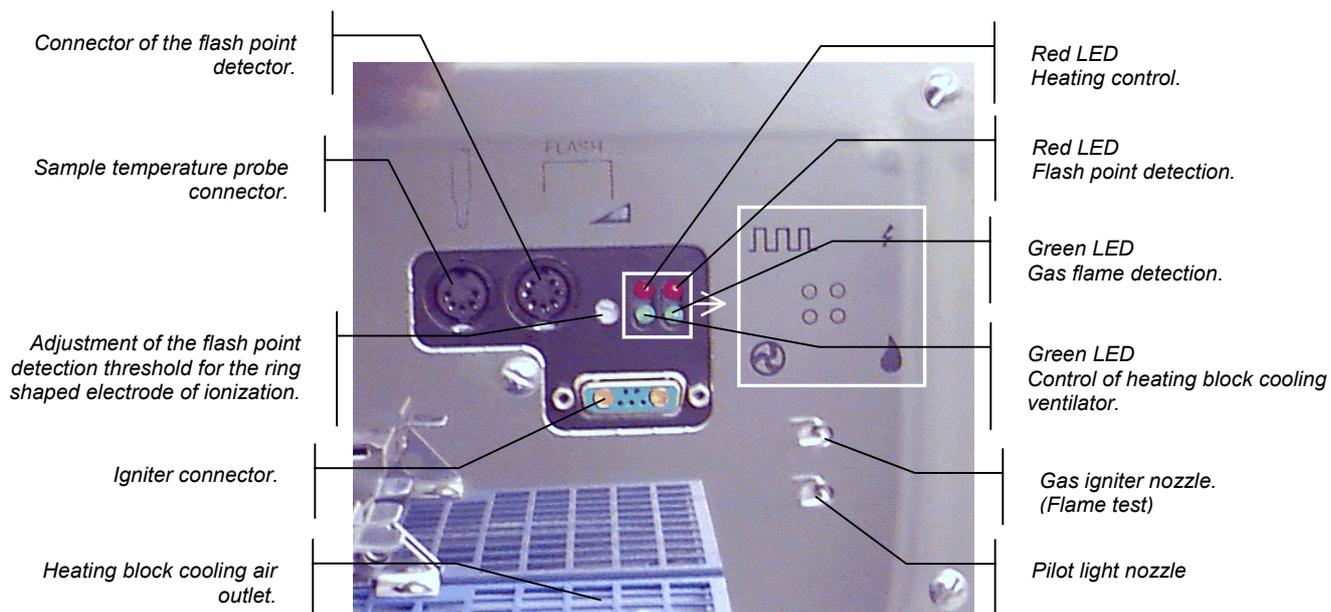

Figure 1-5
Connect the electrical igniter to its connector on the near side of the control unit. (See Figure 1-5 page I-27).
- Connect the flame detection / ignition device to its connector on the near side of the control unit. (See Figure 1-5 page I-27).
- Connect the tubing for the test flame igniter to its connector on the near side of the control unit. (Figure 1-5 page I-27).
- Connect the tubing for the pilot light to its connector on the near side of the control unit. (Figure 1-5 page I-27).
- Connect the sample temperature probe to its connector on the near side of the control unit. (See Figure 1-5 page I-27).